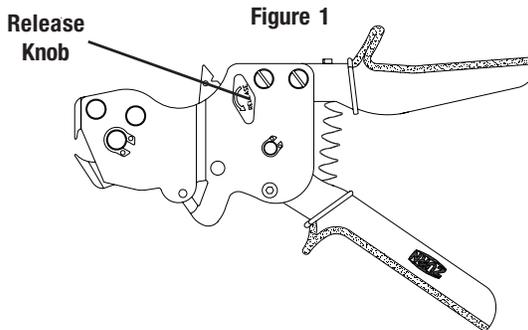

Figure 1
Open the QCRTQCRM tool by turning the Release Knob counter-clockwise (Figure 1). Place the jaws completely over the QickClamp pinch ear. With the tool at a 90° angle to the tube (Figure 2), close the tool by squeezing the handles together repeatedly until the LED light comes on. This may take 6-8 squeezes (Figure 3).
1. Close the jaws about half-way with 3 or 4 squeezes of the handles (Figure 1).